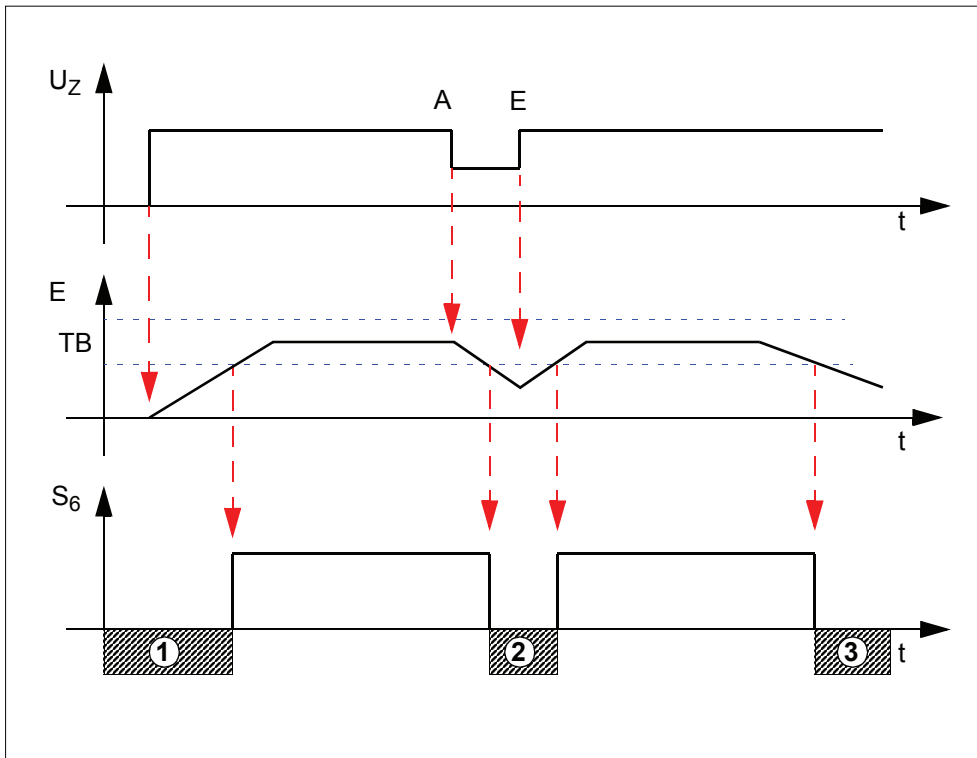

Fig. 11: Monitoring interface signal at terminal "6"
This context is further illustrated in the following figure (Fig. 11).
Loss of power ② (Fig. 11)
The DEU-SU is not working properly ③ (Fig. 11)